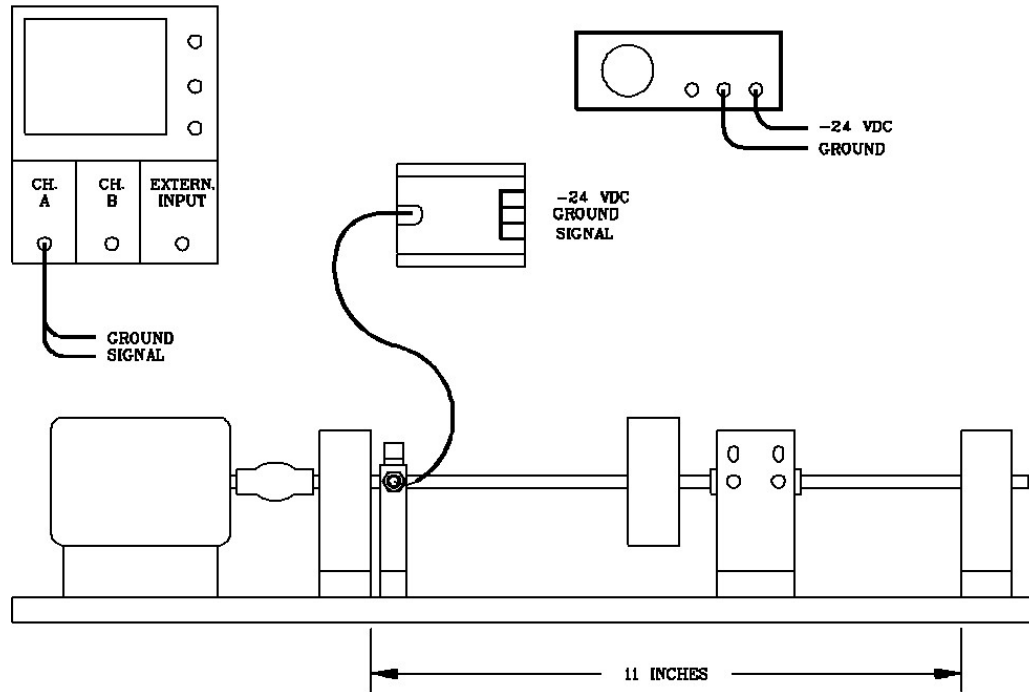

Fig. 5.1
Assemble the demonstration rotor using two (2) sleeve bearing assemblies as shown in Figure 5.1. Install the speed wheel near the inboard bearing assembly.